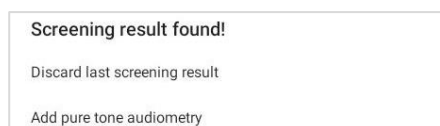

Figure 38
3. after a **Refer** result from the Screening List. Select the subject and press **Add pure tone audiometry** (Figure 38) to proceed to the Audiometry test screen.